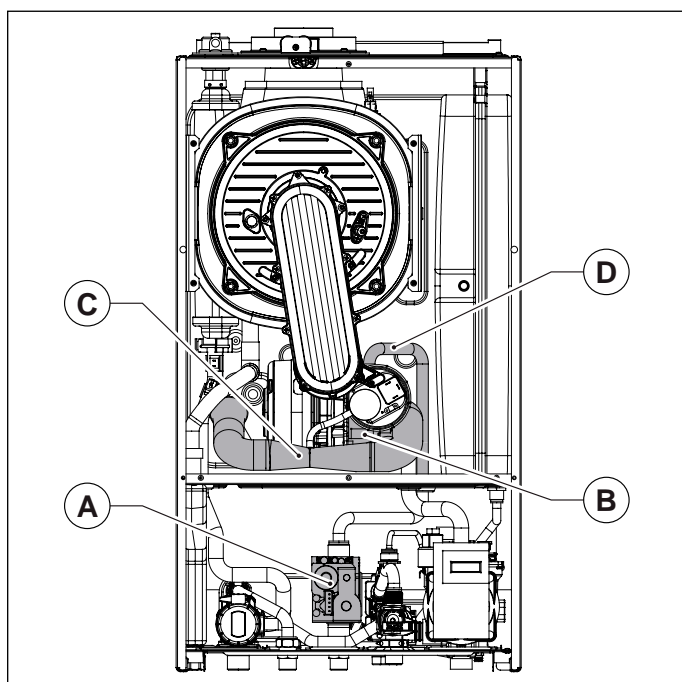

Fig. 41 Intake pipe
- Loosen the screw securing intake pipe to mixer, and remove pipe (see Fig. 41 Intake pipe).
- Disconnect the gas pipe from the mixer (see Fig. 41 Intake pipe).